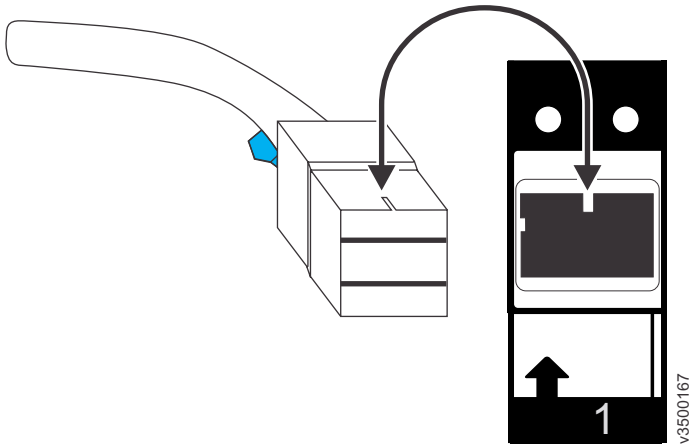

Figure 92. Proper orientation for SAS cable connector
- Figure 92 shows the correct orientation. The blue tab is always below the port for expansion enclosure attachment SAS cables.